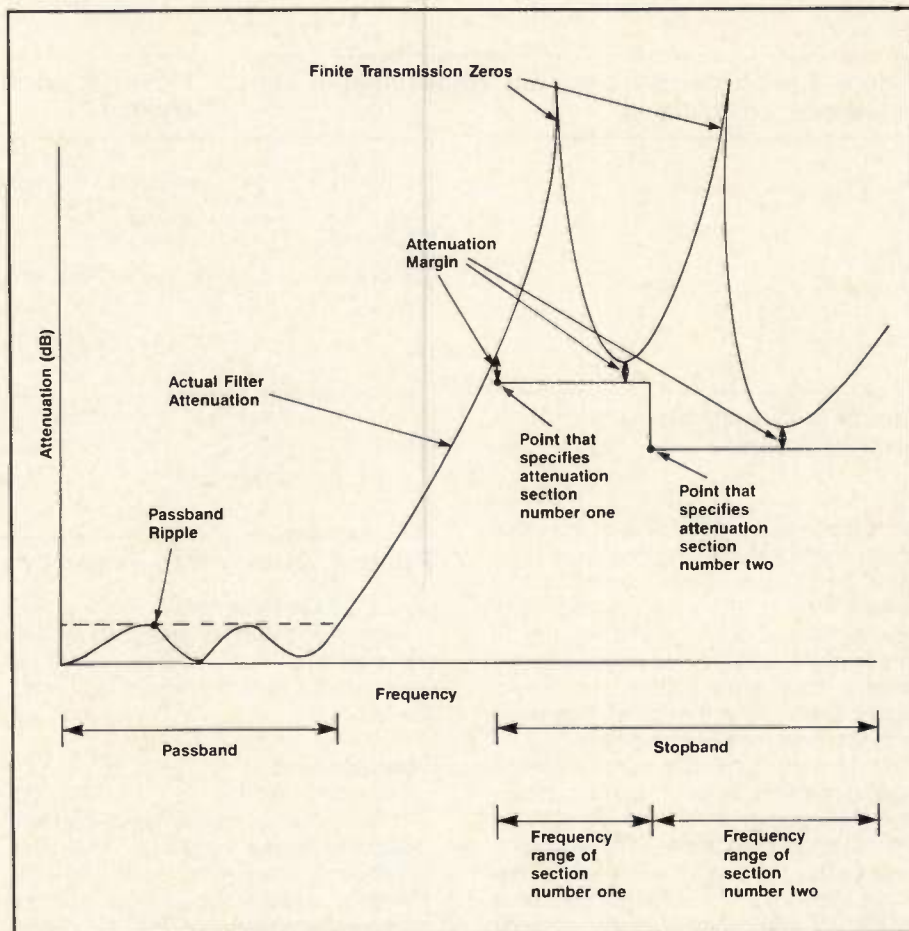

Figure 1. Nomenclature for the passband and stopband.
The approximation (calculating the critical frequencies from attenuation requirements) portion of the program uses an iterative scheme described by Smith and Temes (1). This portion of the program adjusts the finite transmission zeros, if there are any, while constraining the passband to have equal-ripple attenuation characteristics. This is done to force all the minimum differences between the actual attenuation and the specified attenuation to be equal. This minimum difference is referred to as the *attenuation margin*. Any reduction in the filter order would result in a negative attenuation margin and the reduced order filter would not meet the required specification. It should be emphasized that equal-ripple filters are the most efficient in the sense of having the minimum number of elements for a specific attenuation requirement. The price paid for this efficiency is relative high phase distortion near the passband edge. Figure 1 illustrates the filter attenuation specification nomenclature.